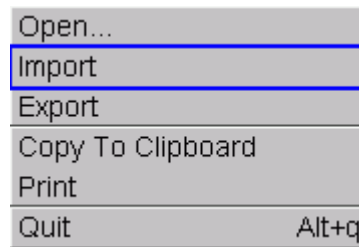

Figure 3.44: Import file menu
- 1) Select menu **File**→**Import** to open the Import dialogue window. See figure 3.44.